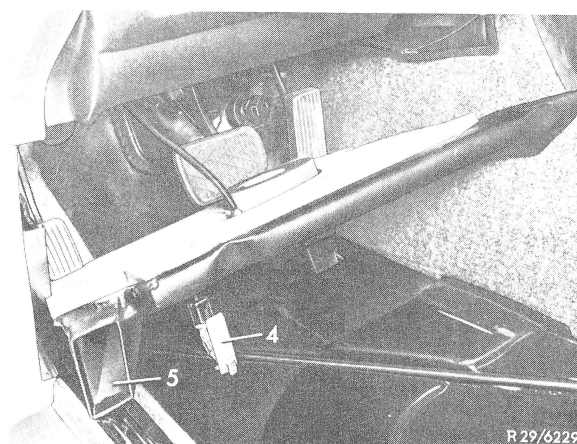

Fig. 5
- 19** Pull cable for legroom light through cover, attach plug and push legroom light (4) into cover (Fig. 5).